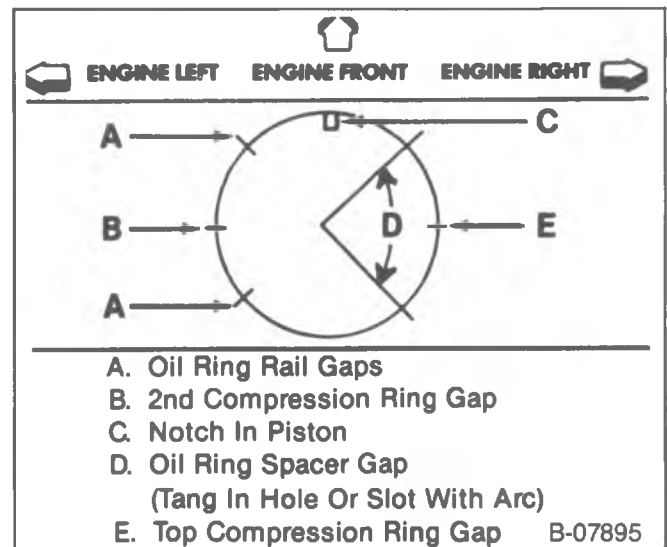

Figure 29—Piston Ring End Gap Locations
- Locate the piston ring end gaps as shown in figure 29. Lubricate the piston and rings.
- The piston must be installed so that the notch in the piston faces the front of the engine (figure 29).